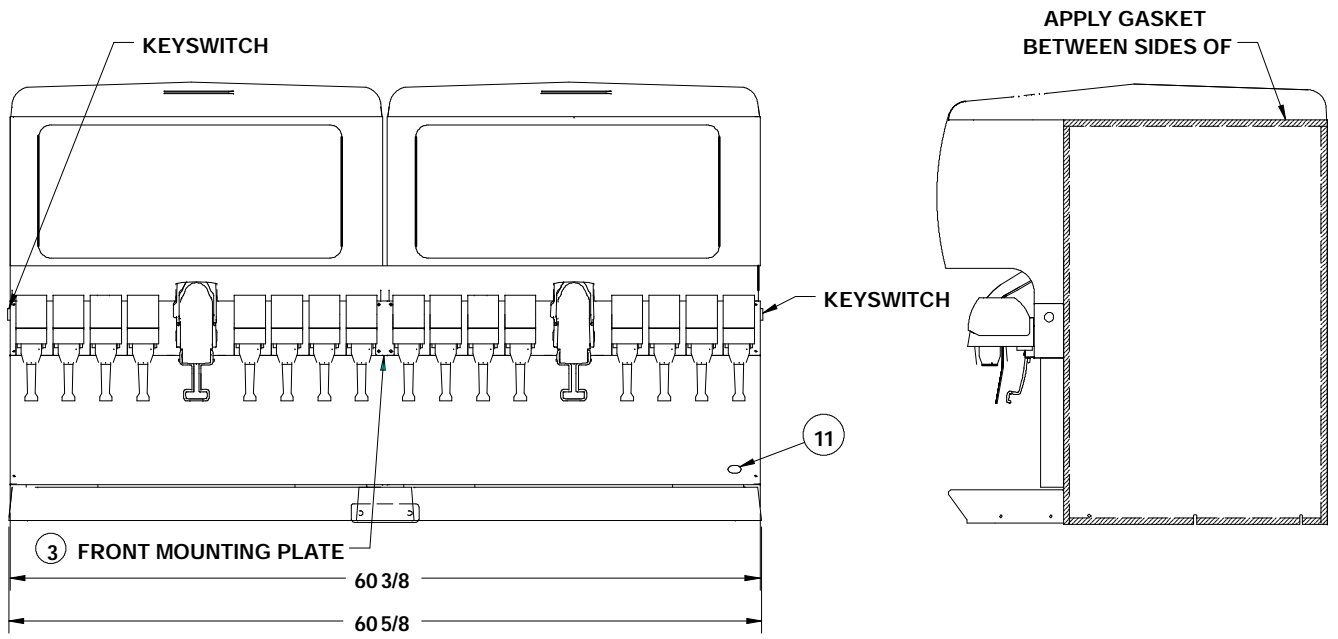

FIGURE 1.
- F. Move black and red wires from left to right side of the beverage panel. Strip red/black wires and reconnect to the keyswitch using wire connectors (item 4) provided.
5. Apply self-adhesive gasket material (item 7) to the side of one Unit as indicated in Figure 1. Ends of the gasket should fit tight to each other.